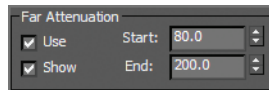

FIGURE 14.17 Check the Use and Show boxes for Far Attenuation.
14. Select the omni light. In the Intensity/Color/Attenuation rollout, click the Use and Show check boxes under Far Attenuation, as shown in Figure 14.17.